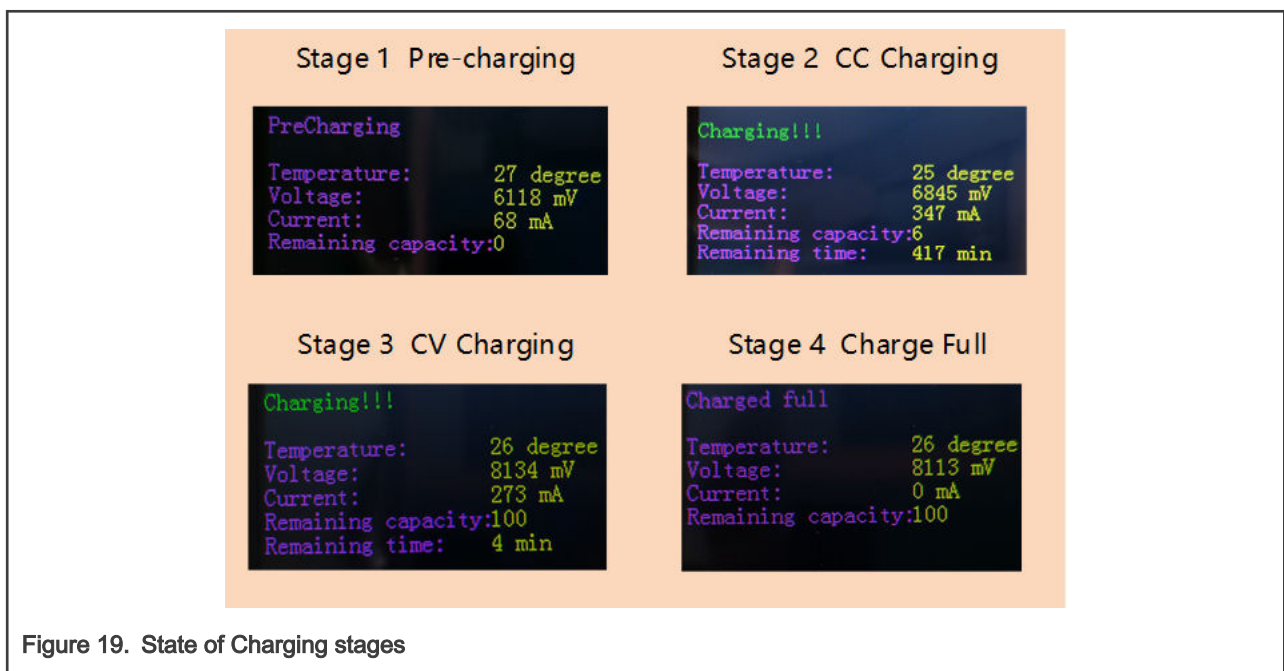

Figure 19. State of Charging stages
4. If the battery voltage is lower than g_PreChargeMaxVoltage, it enters the pre-charge mode. When the battery voltage crosses g_PreChargeMaxVoltage, it enters the constant current charging mode. The constant voltage charging mode starts when the battery voltage reaches g_CCChargeMaxVoltage. Then the voltage is maintained at g_CCChargeMaxVoltage until the current drops to g_CVChargeMinCurrent, charging is completed. The states of these four charging stages are as shown in Figure 19.